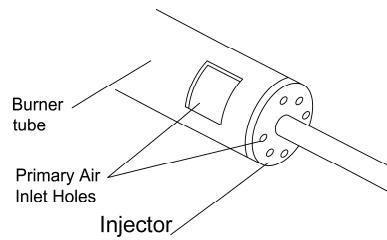

Figure 29 Injector holder on
2. Inspect burner, pilot and primary air inlet holes on injector holder for dust and dirt (see Figure 29).